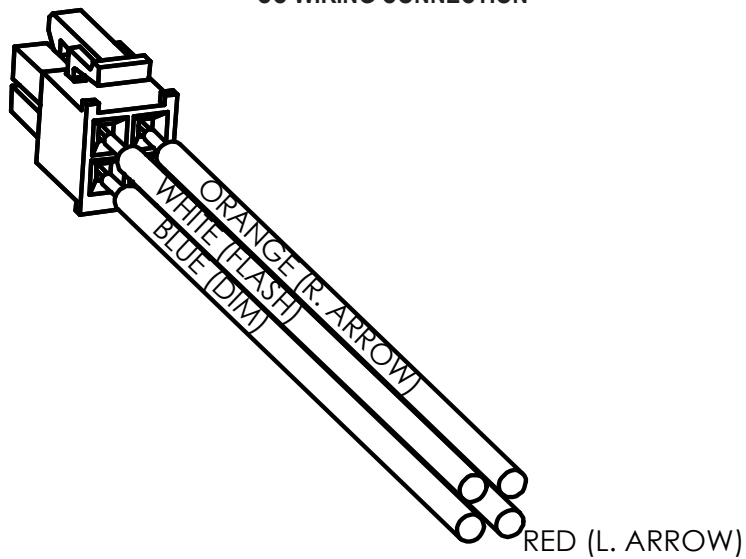

Figure 8
The  Siren can connect directly to any Code 3 Centrally Controlled (CC) Lightbar ArrowStik and some non-Code3 CC Lightbar ArrowStiks using Code 3 harness P/N T56629 (see figure 8). This harness is found in the Harness & Cable Bag P/N T56641. Refer to the wiring diagram on page 13.